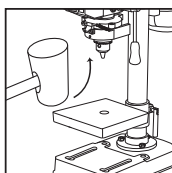

Fig6
■ INSTALLING THE CHUCK (FIG 6)